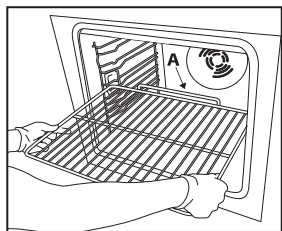

Fig. 1
1. Insert the wire shelf horizontally, with the raised part "A" 'upwards (Fig. 1).